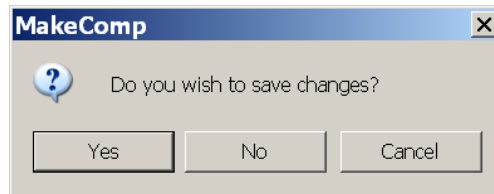

Figure 9. Warning Message Upon Exiting MakeComp
- o **File | Exit** simply closes the MakeComp software. Clicking the 'X' button in the upper right corner of the MakeComp window performs the same function. If no changes have been made or if **File | Save** has already been executed, the program simply closes. However, if changes have not been saved, the program displays the warning message box shown in Figure 9 asking you to confirm your desire to close the MakeComp software. Clicking **Yes** saves all changes, clicking **No** closes the program without saving any changes, and clicking **Cancel** leaves the program open.